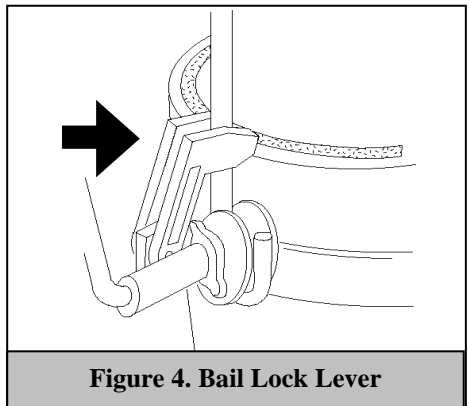

Figure 4. Bail Lock Lever
Step 4: Before the ladle is filled with molten metal, place the bail lock lever in the locked or engaged position. (See Figure 4.)